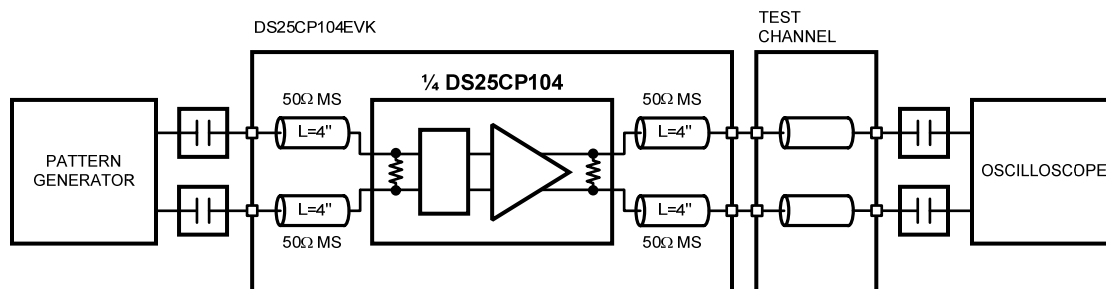

Figure 5. Pre-Emphasis Performance Test Circuit
1. Configure the test setup as shown in figure 5; select the desired test channel lengths in Table 7.